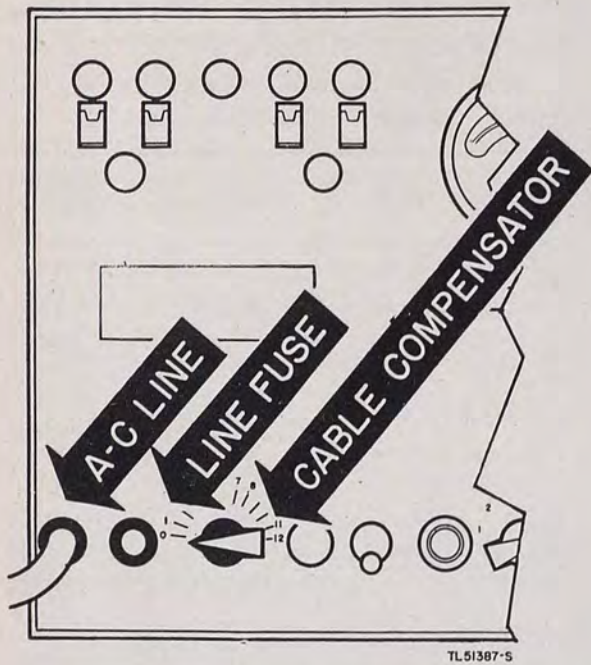

Figure 4. A-C LINE, LINE FUSE, and CABLE COMPENSATOR, Radio Transmitter T-14(\*)/.
(1) A-c line (fig. 4). For application of primary alternating current (ac) to transmitter.
(2) Line fuse (fig. 4). For protection from damage caused by shorts and overloads.
(3) Cable compensator switch (fig. 4). For adjusting amplification in the audio amplifier to compensate for varying degrees of attenuation due to varying lengths of telephone line or cable. Calibrated in decibels referred to 1 milliwatt in 600 ohms (dbm).